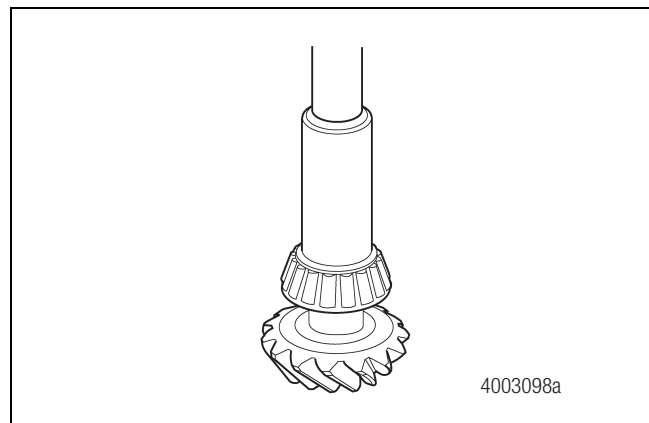

Figure 4.17
5. Use a pinion bearing cone driver, tool drawing number 5027, to press the inner bearing cone onto the pinion. Figure 4.17. Refer to Section 8, Figure 8.4, for instructions to build the tool.